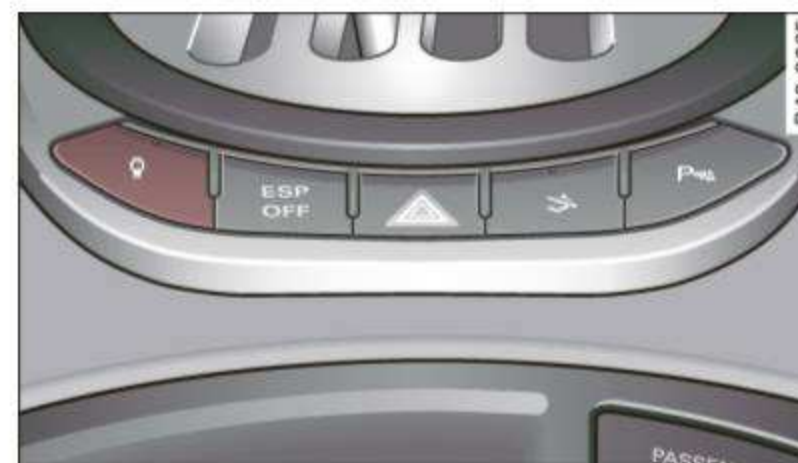

Fig. 69 Center console: Switch for Audi magnetic ride
- Press the switch \Rightarrow fig. 69 to turn sport setting on or off.